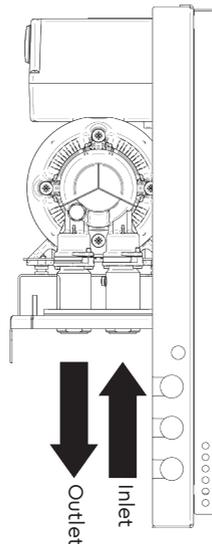

Fig. 2
- 3.21 **Direction of flow:** See Fig. 2 to identify the suction and discharge connections.